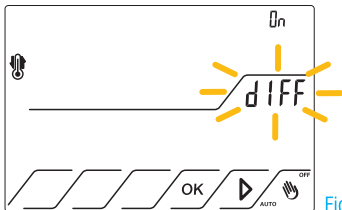

Fig.33
10.1.4 Press OK to confirm. **dIFF** appears and flashes. ON state appear and indicates that the differential regulation is active. Fig.33
10.2.1 Repeat the steps 10.1.1 - 10.1.4. Fig.33
10.3.1 Repeat the steps 10.1.1 - 10.1.4. Fig.33
10.4.1 Repeat the steps 10.1.1 al 10.1.4. Fig.33
10.5.1 Repeat the steps 10.1.1 -10.1.4. Fig.33